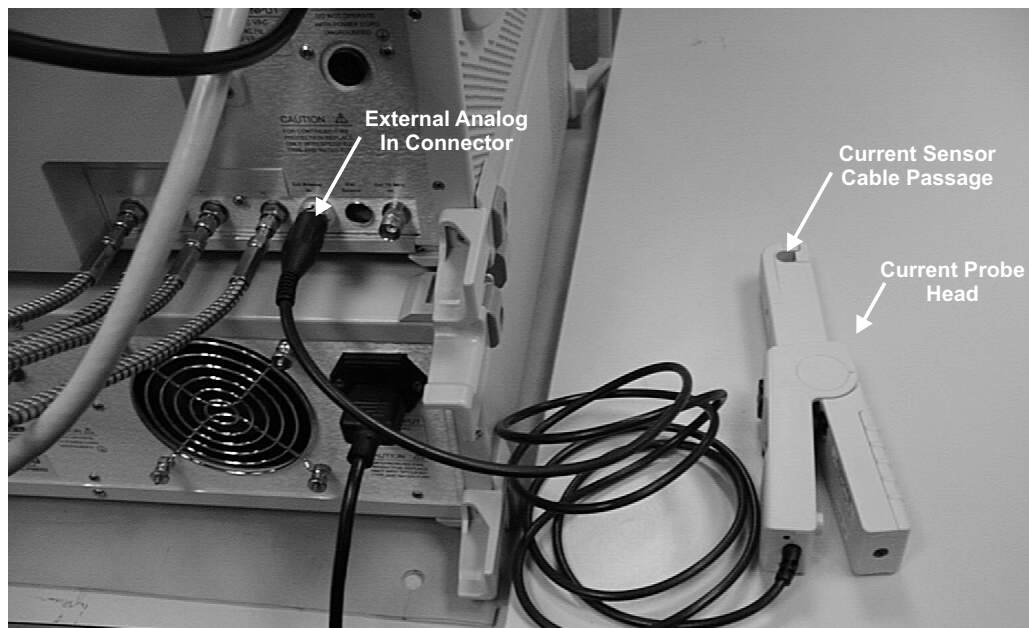

Figure 2-4. *Current Probe Connection*
- Step 8.** (Optional, for drain current PAE measurements.) Connect the current probe cable BNC connector to the Ext. Analog In connector on the rear panel of the MS4623C as shown in Figure 2-4, below.